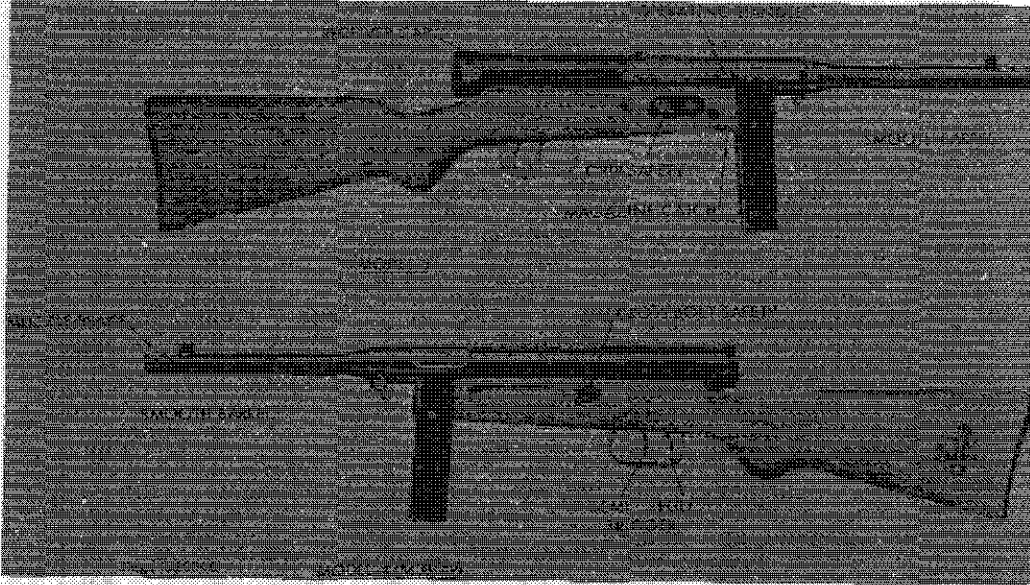

Figure 47. Beretta Model 4 and Model 5 submachineguns.
e. The current gun is the Beretta Model 38/49 (fig 47), also known as the Beretta Model 4. This gun can be easily recognized by its push-through safety. A variation, the Beretta Model 5, is identical except that the push-through safety has been replaced with a large grip safety bar (fig 47).
b. Insert the loaded magazine into the magazine guide until the magazine catch snaps into place. Push the safety catch to the left or, for a Model 5, depress the grip safety bar (fig 47). On the earlier M38, M38A, M38/42, and M38/44, push forward the safety (on the left side of the receiver) (fig 45). Pull the operating handle fully rearward to cock the weapon, then return it forward. CAUTION: The gun is now ready to fire.
c. If the weapon is not to be fired immediately: On the M38, M38A, M38/42, and M38/44, move the safety (fig 45) rearward; on the M38/49 or M4, push the safety (fig 47) to the right; or on the M5, release the grip safety bar. To fire, move the safety back to fire position (or, on the M5 squeeze the grip safety bar), aim, and press the trigger. If the front trigger (fig 45) is pressed, only one shot will be fired. This trigger must be released and repressed to fire successive shots. If the rear trigger (fig 45) is pressed, the weapon will continue to fire until the magazine is empty. When the last round is fired, the bolt will close on an empty chamber. Press the magazine catch (fig 47) and pull the magazine out of the gun.
a. Clear the gun (para 77), but do not insert the magazine or apply the safety. Rotate the receiver cap (fig 47 and 48) one-quarter turn to the left and ease it back. Remove the receiver cap and pull the driving spring and bolt out of the receiver. It may be necessary to elevate the muzzle and press the trigger (first depressing the grip safety bar on the M5) to allow the bolt to slide rearward out of the receiver. No further disassembly is required or desirable.